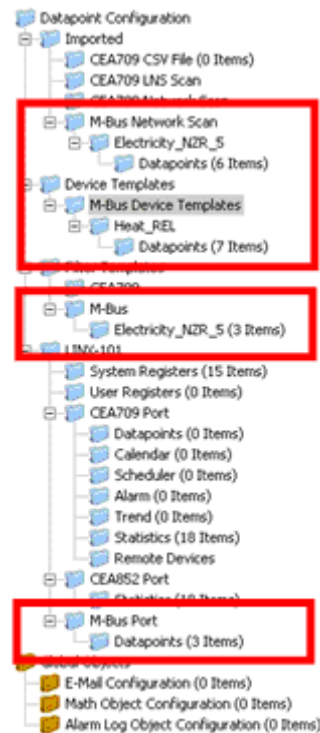

Figure 127: Data Point Manager Dialog with M-Bus folder list.
The Configurator uses a central concept to manage data points. The data point manager as shown in Figure 127 is used to select, create, edit and delete data points. The dialog is divided into three sections:
- The folder list (Figure 127),